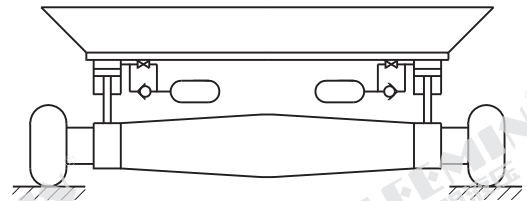

图8
7、液压设备中的机械振动可被蓄能器吸收，用于叉式提升机的驱动和悬挂系统、移动吊车、农用和市政设备、石块破碎机等。（图8所示）
Mechanical shocks in hydraulically driven equipment can be absorbed by accumulators. Possible applications are in drive and suspension systems for fork-lifts, mobile cranes, agricultural and civil engineering machinery, rock crusher etc (Fig.8).